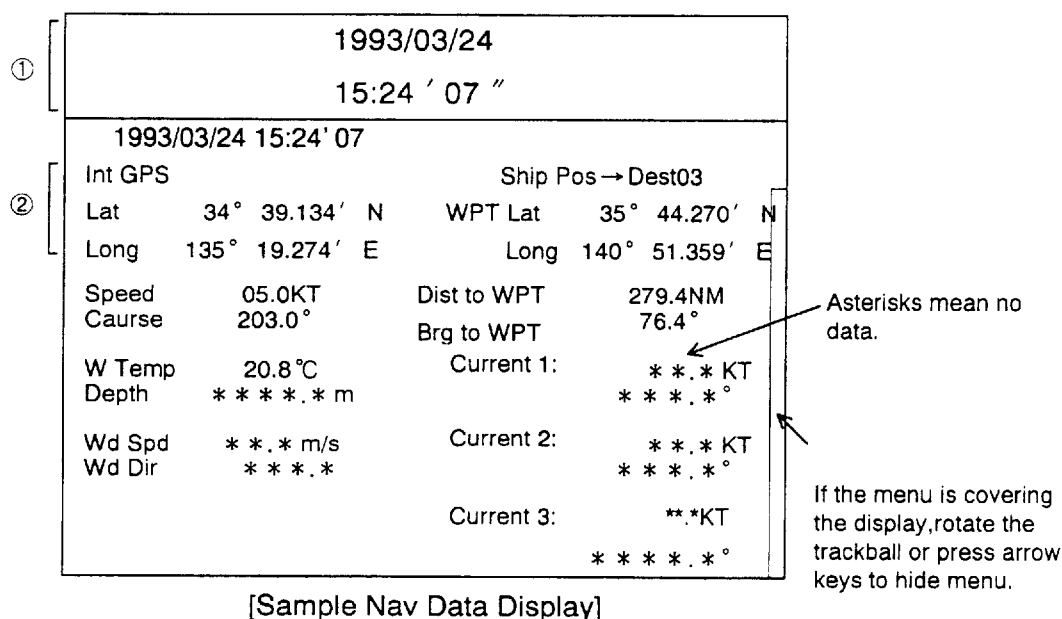

Figure 1-32 Displays shown by pressing **MENU, 1, 1 and 2**
(1) in Figure 1-32 is called the headline. You can select what data to display there by pressing;
(2) in Figure 1-32 is the navaid position display. The navaid selected here does not change the navaid selected to feed position data for plotting ship's track. To change the navaid display, press;